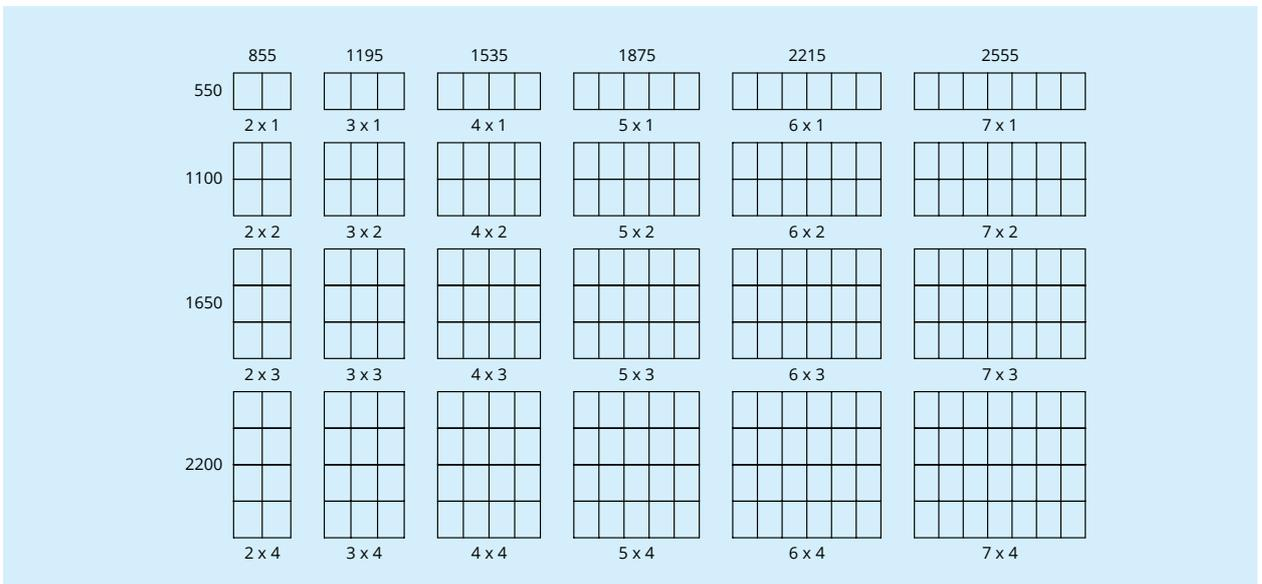

Figure 42: Internal Building Dimensions for Various Meter Bank Configurations
For the dimensions required for differing meter manifold arrangements see figure 42 page 25.
5. The builder must open ground to allow for steel gas service into the meter compartment. For internal dimensions for various meter configurations, please consult figure 42 below.